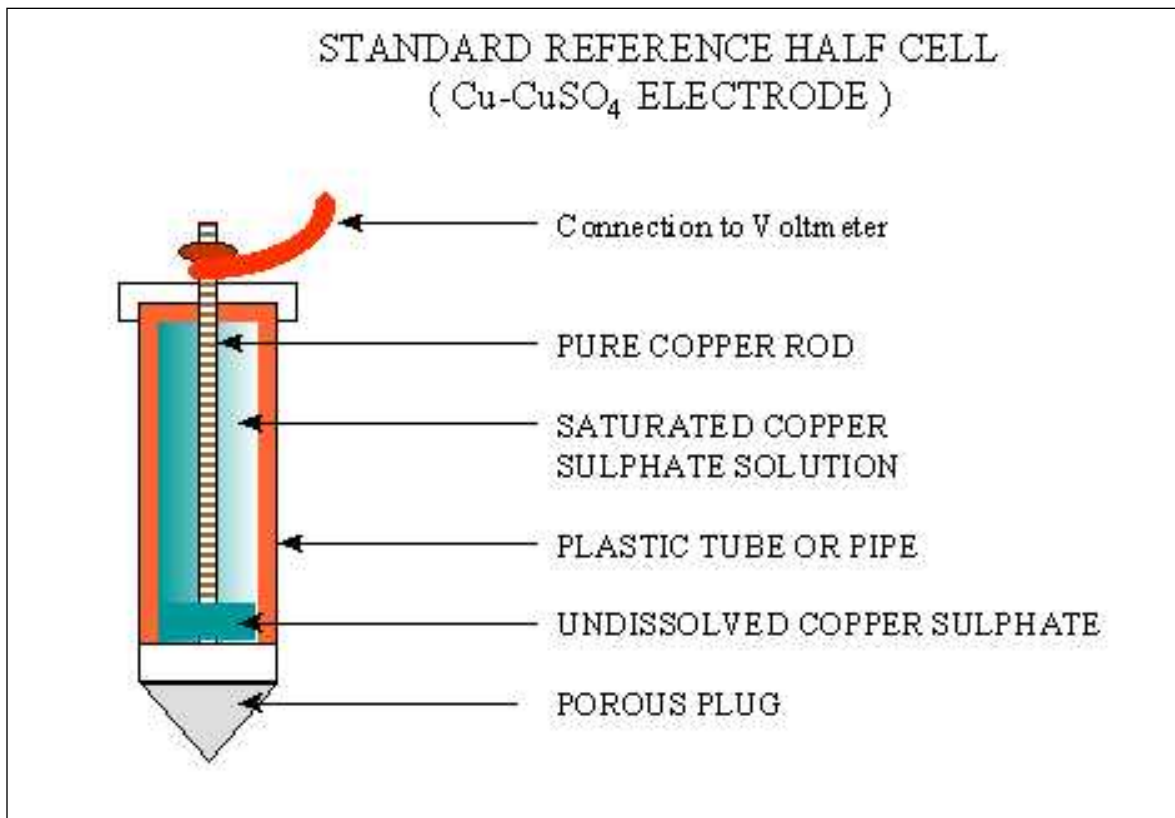

Figure VIII-7 Reference Electrode – A saturated copper-copper sulfate half-cell.
**Reference electrode (commonly called a half-cell)** - A device which usually has copper immersed in a copper sulfate solution. The open circuit potential is constant under similar conditions of measurement. (See Figure VIII-7.)